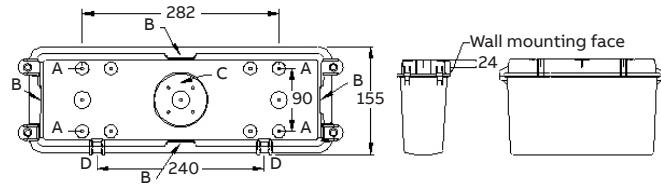

Figure 1: Glass filled nylon base, drill to suit for mounting
1. Take the nylon base and drill holes to suit (refer figure 1). Base mounting screws are not supplied with the luminaire. Use appropriate screws as required depending on your installation, ie: wall or ceiling. Installer must ensure proper sealing of any penetration to the base to maintain the IP rating of the luminaire.
1. Without using any wall mount bracket; drill holes in the base to suit (refer figure 1, hole position 'D') for wall mount installation without using any bracket. Use appropriate screws as required. Installer must ensure proper sealing of any penetration to the base to maintain the IP rating of the luminaire.